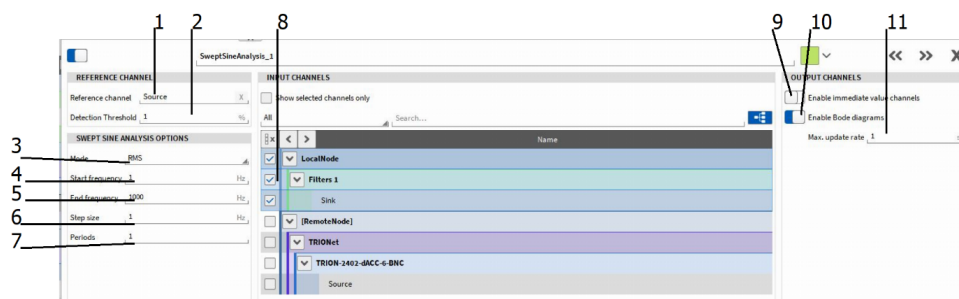

Fig. 7.137: Swept Sine Analysis setup – overview
- *ChannelName_iRMS* or *ChannelName_iPeak*: Time domain channel; Contains the amplitude (RMS or Zero-to-Peak level depending on the selection in ③ in Fig. 7.137) of the signal at the actual frequency; The amplitude is only referring to the fundamental frequency signal components; Can be assigned to a Recorder (see Recorder), Digital Meter (see Digital meter) or similar.
- *ChannelName_iUFRMS* or *ChannelName_iUFPeak*: Time domain channel; Contains the amplitude (RMS or Zero-to-Peak level depending on the selection in ③ in Fig. 7.137) of the signal at
- *ChannelName_RMS* or *ChannelName_Peak*: Frequency domain channel; Contains the transfer function (RMS or Zero-to-Peak level depending on the selection in ③ in Fig. 7.137); The amplitude is referring to the fundamental frequency signal components; Can be assigned to a Spectrum Analyzer (see Spectrum analyzer) instrument for displaying the data.
- *ChannelName_UFRMS* or *ChannelName_UFPeak*: Frequency domain channel; Contains the transfer function (RMS or Zero-to-Peak level depending on the selection in ③ in Fig. 7.137); The amplitude is referring to the entire signal components; Can be assigned to a Spectrum Analyzer (see Spectrum analyzer) instrument for displaying the data.